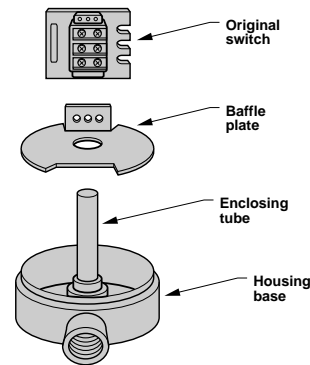

Figure 4 – Original switch configuration
- b. **If replacing a single switch which used a baffle plate:** lift the entire switch assembly and the baffle plate off the enclosing tube. *Discard these parts.* See **Figure 4**.